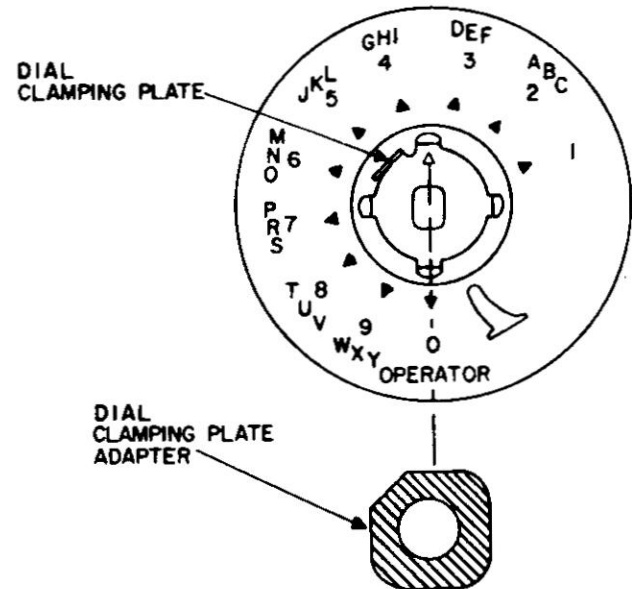

Figure 6. Dial Clamping Plate Adapter Location on A.E. Co. Dial Assembly.
See Addendum 2.18 The Dial Plate Adapter, (PP-4108), shown in Figure 6 is used to prevent the D-780896-A acrylic or polycarbonate fingerwheel from unintentionally snapping off the dial clamping plate due to sprung or ill fitting clamps. The adapter reinforces the clamping plate and prevents the removal of the fingerwheel without the use of the fingerplate removal tool H-886316-1 or equivalent.
2.19 To install the Dial Clamping Plate Adapter on the A.E. Co. dials equipped with acrylic or a polycarbonate fingerwheel, remove the fingerwheel from the dial assembly per the instructions given in paragraph 2.13. Place the adapter within the dial clamping plate as shown on Figure 6. Replace the fingerwheel per the instructions given in paragraph 2.17.